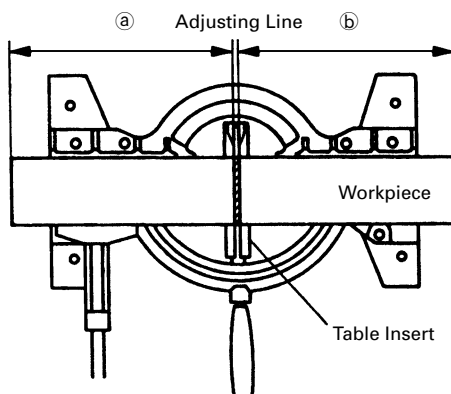

Fig. 15
- (1) As shown in Fig. 15 the width of the saw blade is the width of the cut. Therefore, slide the workpiece to the right (viewed from the operator's position) when length **ⓑ** is desired, or to the left when length **ⓐ** is desired.
- (2) Once the saw blade reaches maximum speed, push the handle down carefully until the saw blade approaches the workpiece.
- (3) Once the saw blade contacts the workpiece, push the handle down gradually to cut into the workpiece.
- (4) After cutting the workpiece to the desired depth, turn the power tool OFF and let the saw blade stop completely before raising the handle from the workpiece to return it to the full retract position.